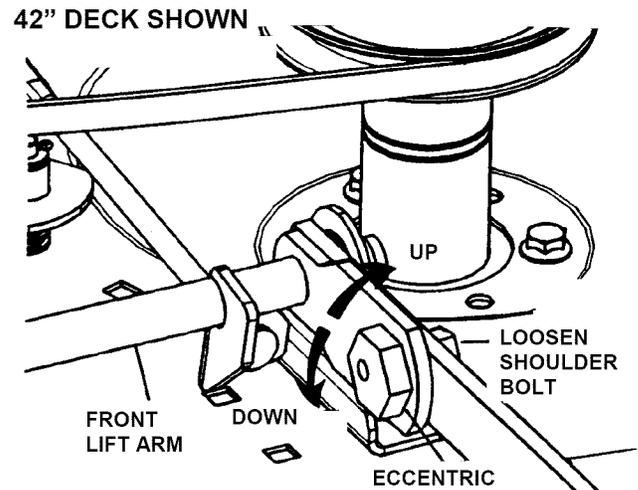

FIGURE 4.7
- g. Turn eccentric "UP" or "DOWN" as required until blade tips are within $1/8$ " of the same distance from the floor. See Figure 4.7.